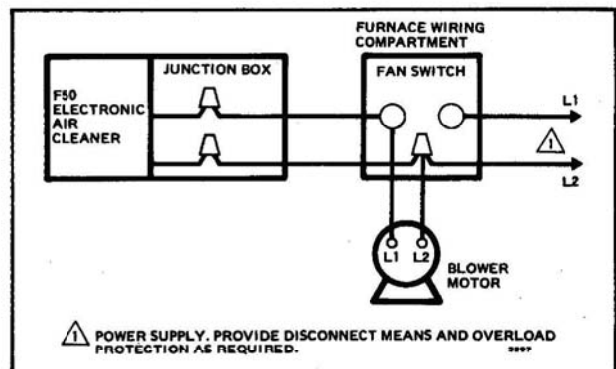

FIG. 23—F50A ELECTRONIC AIR CLEANER WIRED INTO THE SYSTEM FAN CIRCUIT.
1. If the system blower is driven by a single-speed, single-phase motor, it probably will be most convenient to wire the air cleaner into the fan circuit (Fig. 23). *Select an air cleaner to match the supply voltage and frequency.*